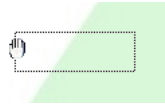

Figure 11.3: The mouse cursor after having pressed the **Paste** button
- ▶ press the **Paste** button  on the toolbar (the mouse cursor will change as shown in Figure 11.3),